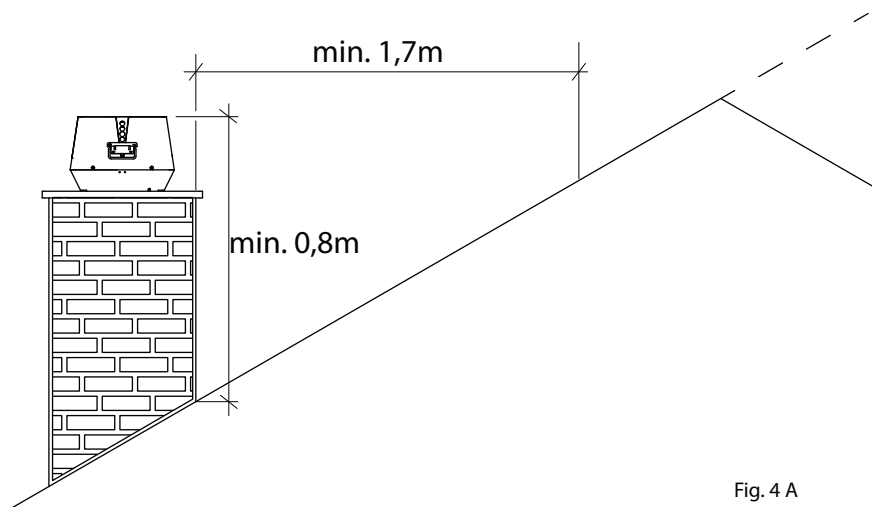

Fig. 4 A
- Minimum distance to non-combustible material as per Fig. 4 A, or according to national legislation.